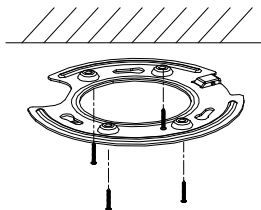

Figure 2-48 Fix the Base Plate
4. Insert four PM4×10 screws into the ceiling and fix the base plate, as shown in Figure 2-48. Make sure the FRONT arrow of the base plate is of the same direction as the arrow of the drill template.